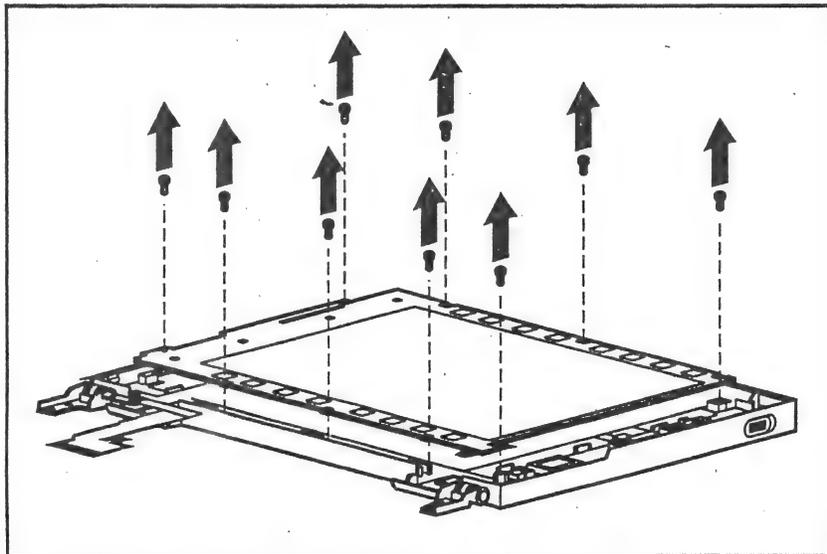

Figure 2-35. Removing the Nine Screws
3. Remove the nine screws that secure the LCD panel (Figure 2-35).